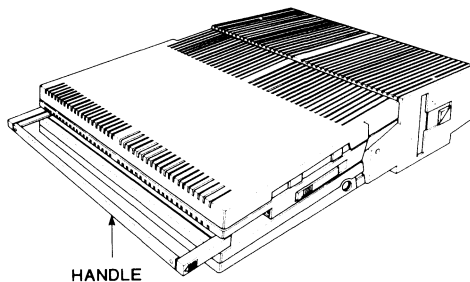

Figure 2-13. Built-In Handle
6. Pull the handle out from the lid as shown in Figure 2-13. The lid must be closed before you can pull out the built-in handle.